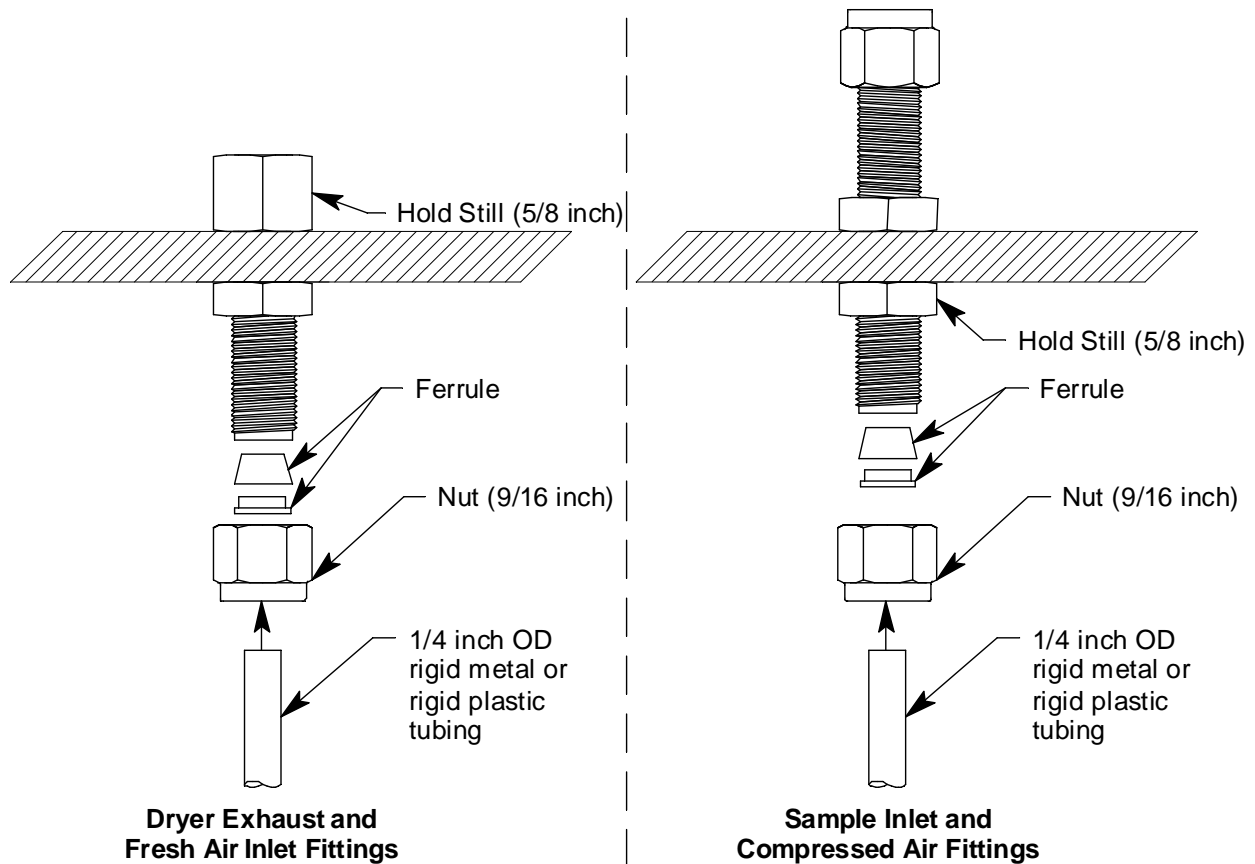

Figure 17: Compression Fitting Connection
5. Before tightening the nut, be sure to hold the fitting still so it does not rotate using a 5/8 inch open-end wrench or an adjustable wrench. The dryer exhaust and fresh air inlet fittings will have to be held from the inside of the housing while the sample inlet and compressed air fittings will have to be held from the outside (see Figure 17). While holding the fitting still, firmly tighten the nut with a 9/16 inch open-end wrench or an adjustable wrench so the ferrules crimp onto the sample tubing and make a seal.